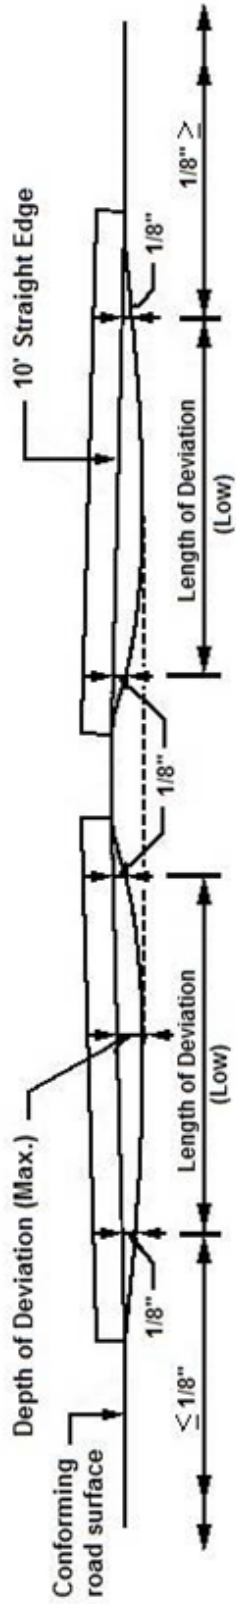

Figure 1A
- (1) The maximum depth of the deviation is determined by the largest shim or combination of shims that can pass freely under the straightedge, using examples in Figures 1a, 1b and 2.
The length of the deviation is determined using examples in Figures 1a, 1b and 2.